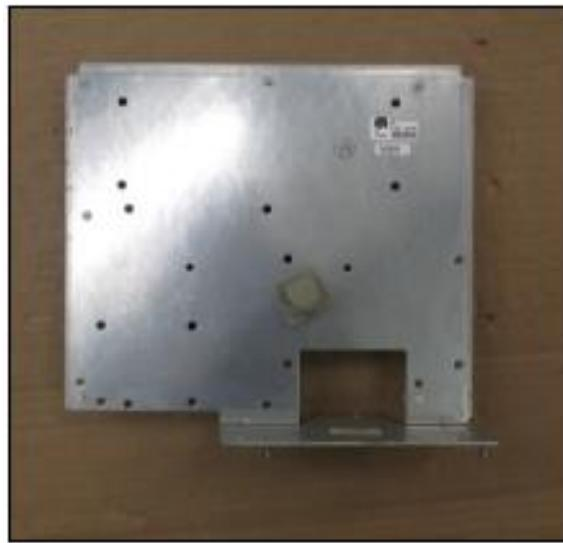

Fig 2.12e – CRIND Control Bracket after removal
- g. Remove the CRIND Control Bracket from the dispenser. It can be discarded. It will not be re-installed. (Fig 2.12e)